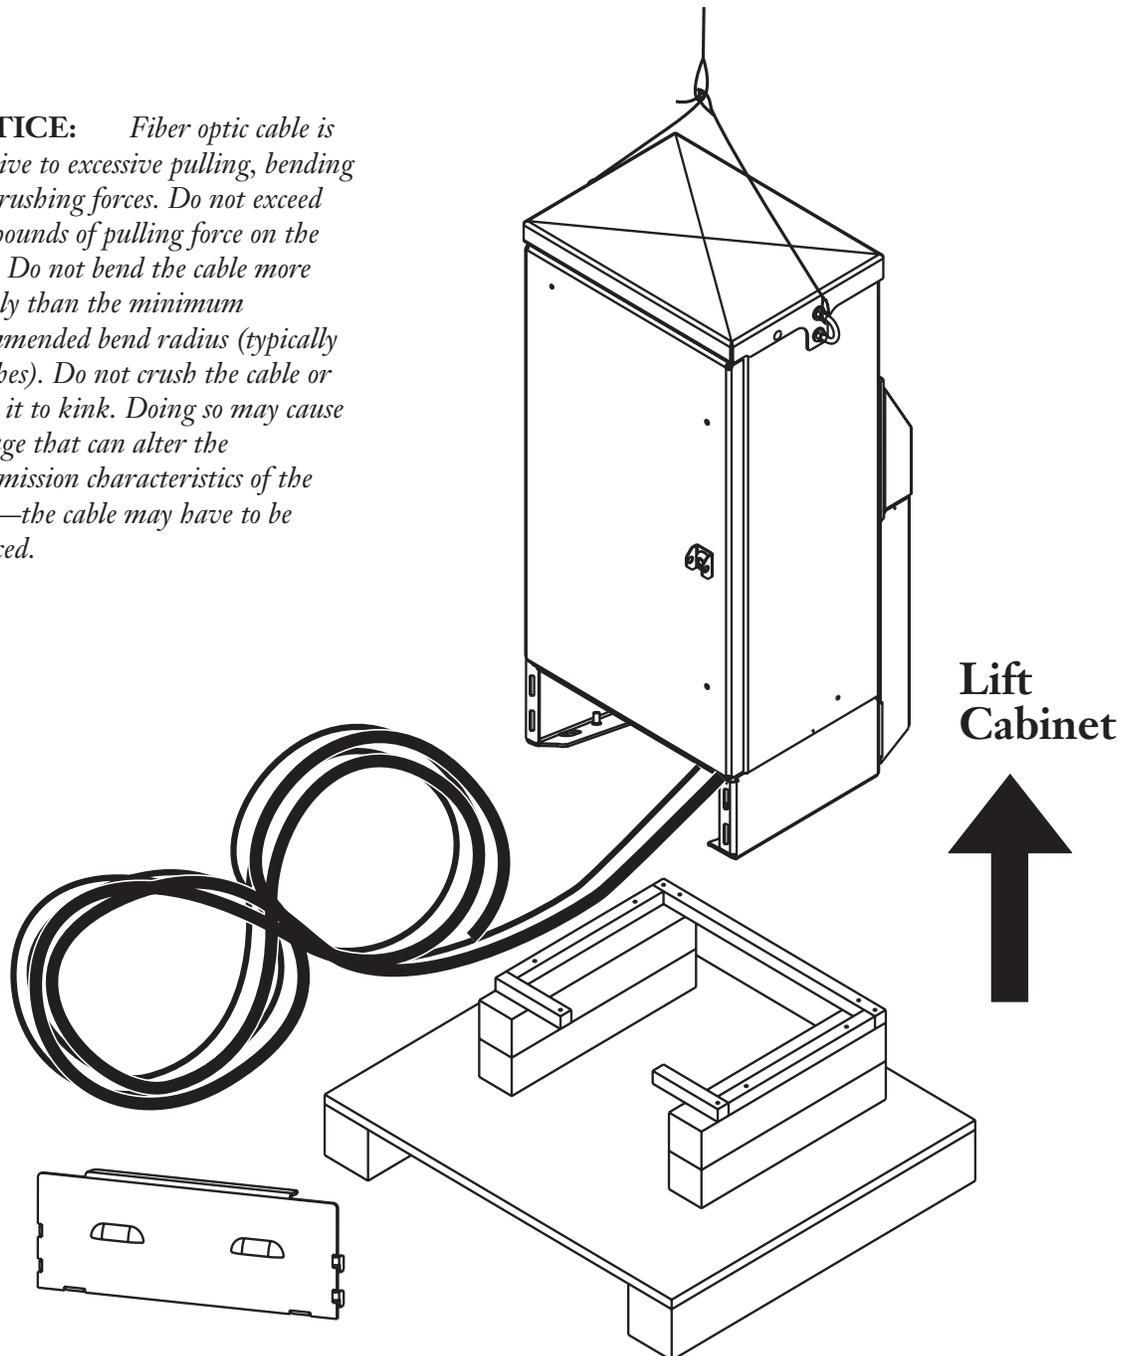

Figure 4 — Lift Cabinet
- Step 6** Carefully lift the cabinet and move it into position over the cabinet location on the pad. Be sure that cable slack is not pinched or kinked during the lifting operation (Figure 4).